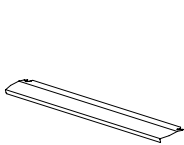

Figure 10
1. A heat shield (figure 10) is designed to protect the control panel and knobs when the oven is in grill mode.